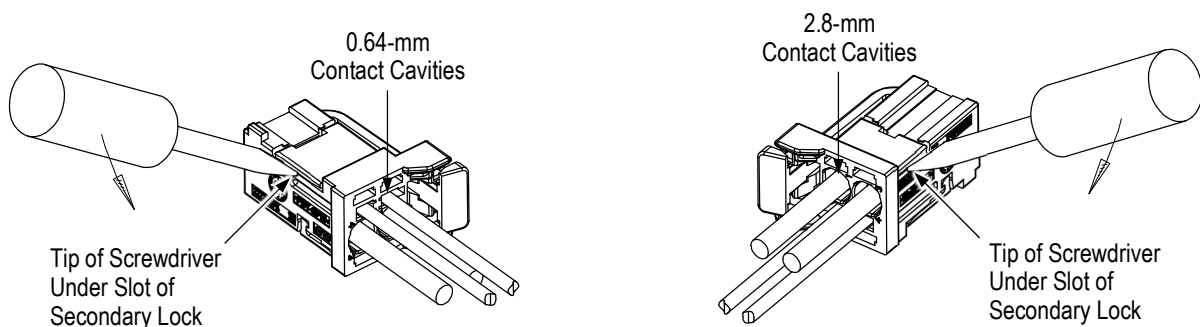

Figure 6
1. Using a screwdriver with a tip having a maximum width of 3-mm, insert the tip under the slot of the secondary lock of the plug assembly, and rotate the secondary lock to the open position. To remove all contacts, both secondary locks must be in the open position. Refer to Figure 6. Be careful not to damage the locking features with the screwdriver. Do not rotate the secondary lock past the open position.